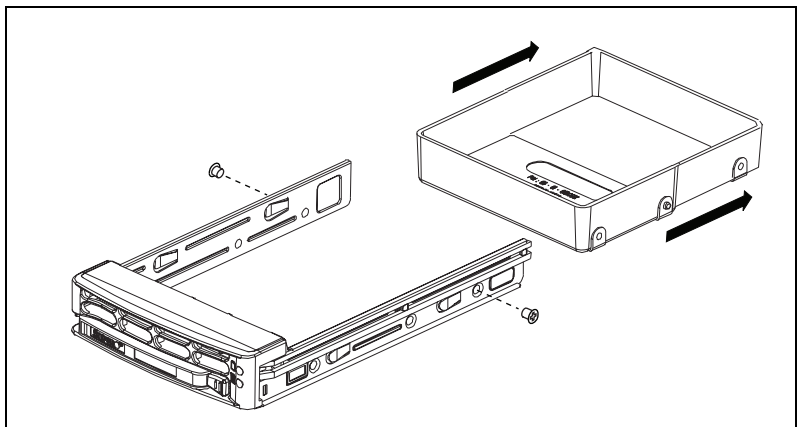

Figure B-26. Removing Dummy Tray
3. Remove the two screws that attach to the sides of the dummy tray. Remove the tray, as shown in Figure B-26.